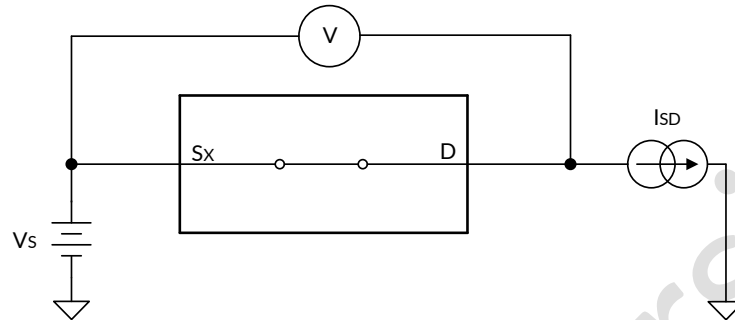

Figure 11. On-Resistance Measurement Setup
The on-resistance of a device is the ohmic resistance between the source (S_X) and drain (D) pins of the device. The on-resistance varies with input voltage and supply voltage. The symbol R_{ON} is used to denote on-resistance. The measurement setup used to measure R_{ON} is shown below. Voltage (V) and current (I_{SD}) are measured using this setup, and R_{ON} is computed as shown in Figure 11 with $R_{ON} = V / I_{SD}$: